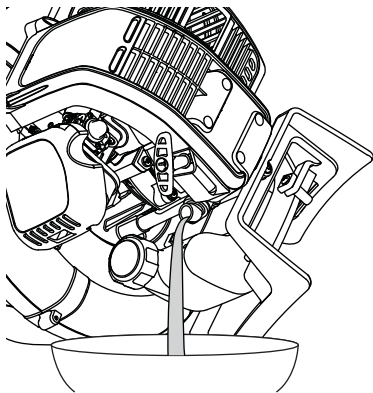

Fig. 21
2. Pour the oil out of the oil fill hole and into a container by tipping the unit to the side (Fig. 21). Allow ample time for complete drainage.